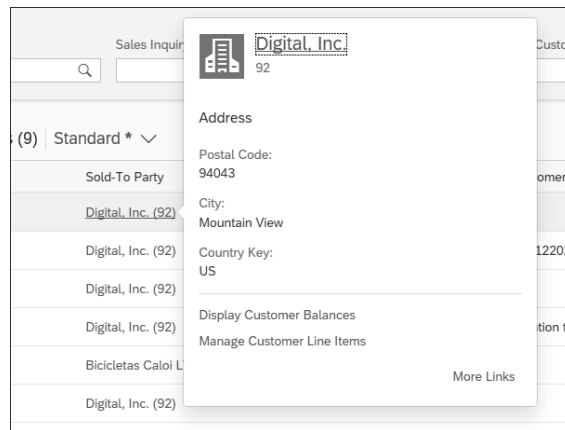

Figure 4.61 Manage Sales Inquiries: Sold-to Party Drilldown Data
10. Once back on the output results screen, explore the selected inquiry documents by clicking on the inquiry number or the customer name, and drilling down into further detailed data (see Figure 4.61).